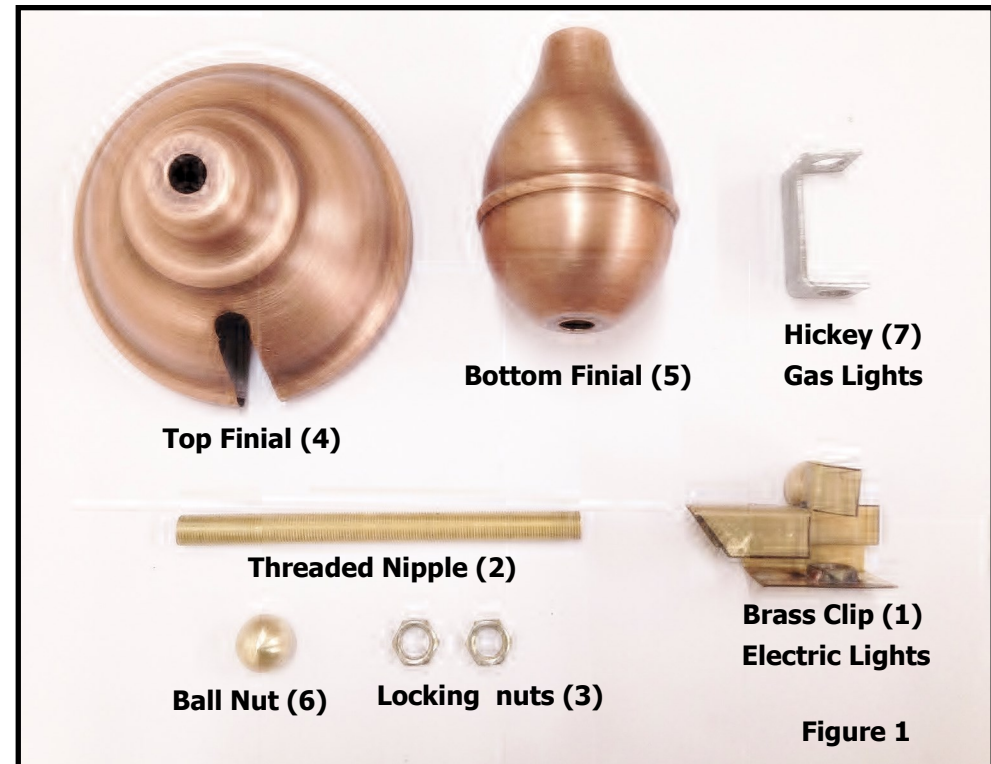

Figure 1
1. Remove the contents of the package and identify all of the parts shown in **Figure 1**. Read the instructions completely before beginning.